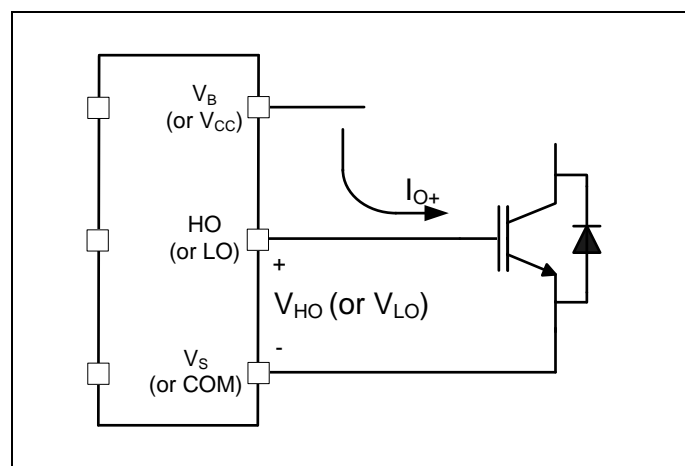
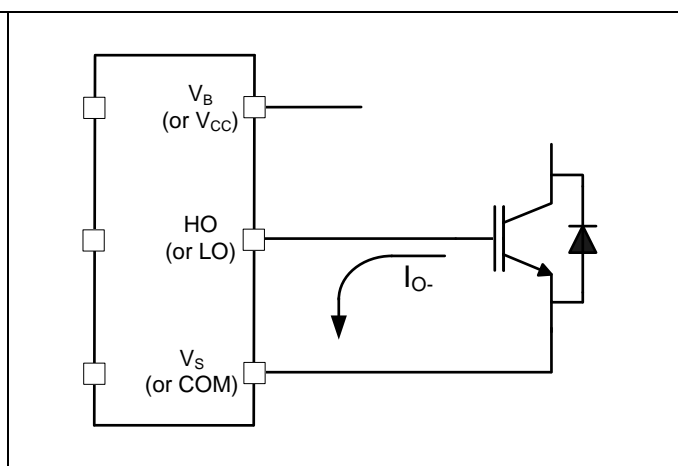

Figure 4 HVIC Sourcing current
Figure 5 HVIC Sinking current
The 2ED2106 (4) S06F (J) HVIC is designed to drive MOSFET or IGBT power devices. Figure 4 and Figure 5 illustrate several parameters associated with the gate drive functionality of the HVIC. The output current of the HVIC, used to drive the gate of the power switch, is defined as I_O . The voltage that drives the gate of the external power switch is defined as V_{HO} for the high-side power switch and V_{LO} for the low-side power switch; this parameter is sometimes generically called V_{OUT} and in this case does not differentiate between the high-side or low-side output voltage.